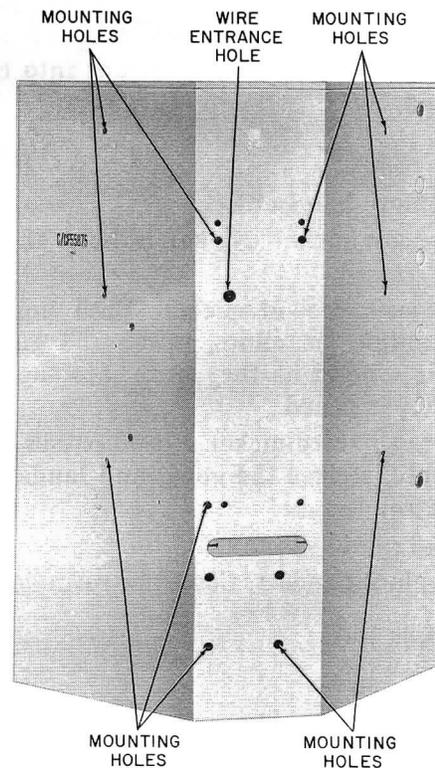

Fig. 8 — Location of Mounting Holes and Wire Entrance Hole
- (1) Open door (see 2.02 and note).
- (2) Feed inside wire through wire entrance hole (Fig. 8).
- (3) Fasten coin telephone to mounting with 1/4-20 by 3/4-inch round head steel screws. Use washers on screws so head cannot be pulled through hole.